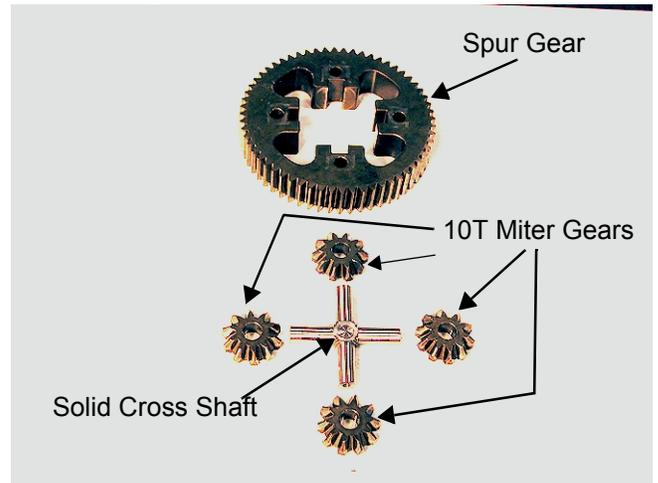

Figure 24
29. Separate the differential assembly components and inspect for damage or wear: spur gear, 10T miter gears and solid cross-shaft. See Figure 24.